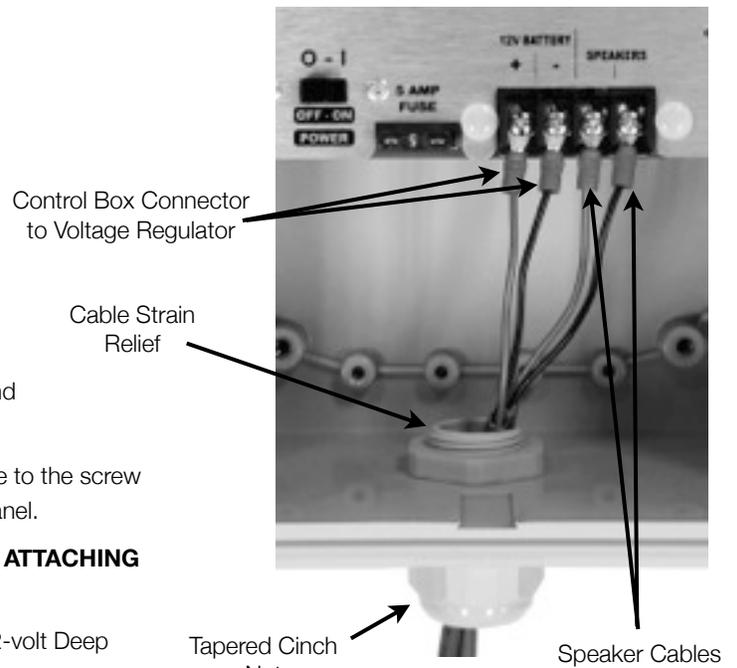

Figure 6
9. Feed the Speaker Cables through the Cable Strain Relief at the bottom of the Control Box. (Figure 6)